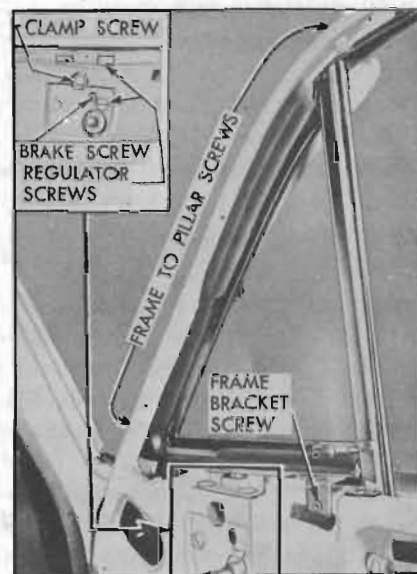

Figure 13-36—Closed Body Front Ventilator and Regulator Mountings
2. Remove clamp screw which attaches glass channel T-shaft to regulator, also the regulator attaching screws. See figure 13-36.
Adjust the brake screw (fig. 13-36) to provide proper operating tension on regulator before installing door trim pad.
bracket to door inner panel. See figure 13-36.